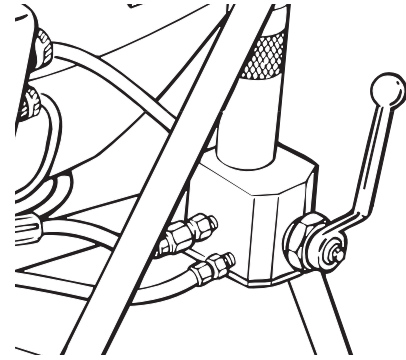

Figure 5. Set Prime/Spray Ball Valve to Prime
4. Set Prime/Spray Ball Valve on Prime. (See Figure 5.)